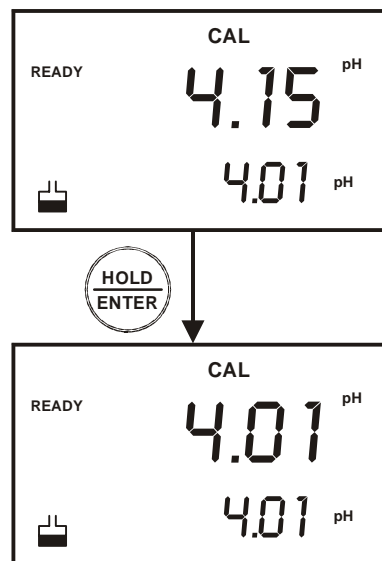

Figure 12: Proceed to next calibration point
8. Follow steps 5 and 6 for additional calibration points. See Figure 12.